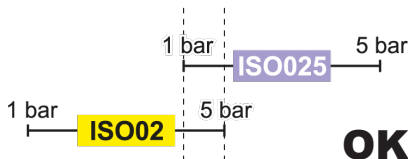

Fig. 116
• **Compatible nozzles:** the rate at 1 bar of the ISO025 nozzle is LOWER than the rate at 5 bars of the ISO02 nozzle (Fig. 116).